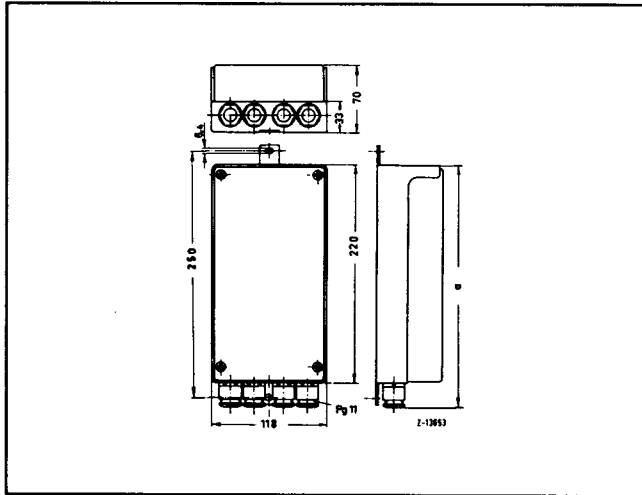

Fig. 7 Dimensional drawing of the field case IP 54 (dimensions in mm)
1.4.4 Field case IP 54 (only without explosion-protection) (see Fig. 7)